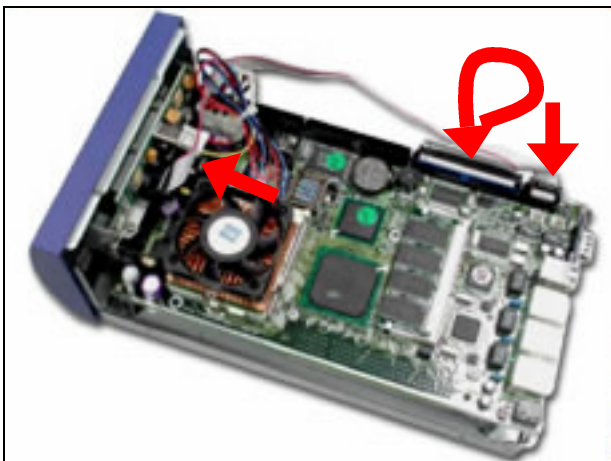

Fig. 2-31 Recover cable connection
9. Connect the EZIO COM port cable and the IDE cable (*Fig. 2-31*).